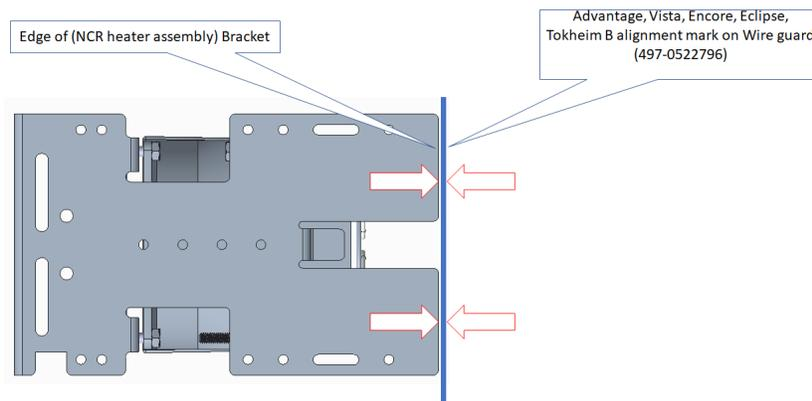
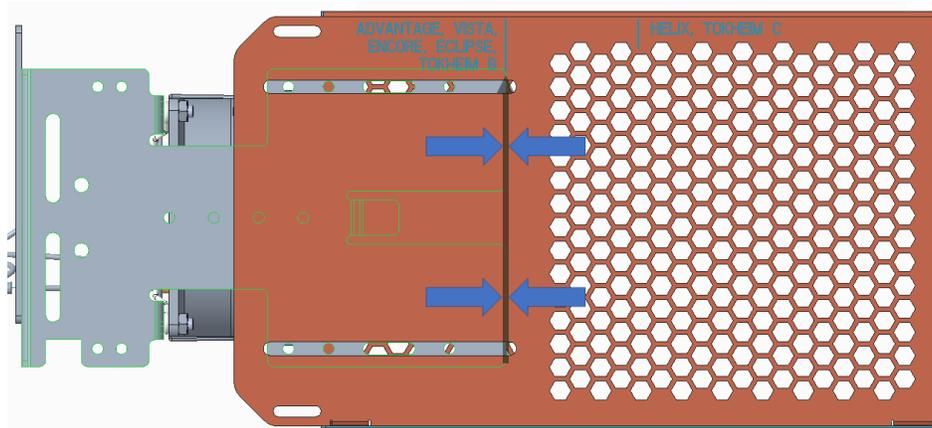

Figure 28
Figure 29
- 2) Slide the wire guard (497-0522796) around the NCR heater assembly so that the edge of the bracket aligns with the Advantage, Vista, Encore, Eclipse, Tokheim B alignment mark as shown in Figure 28 and Figure 29.